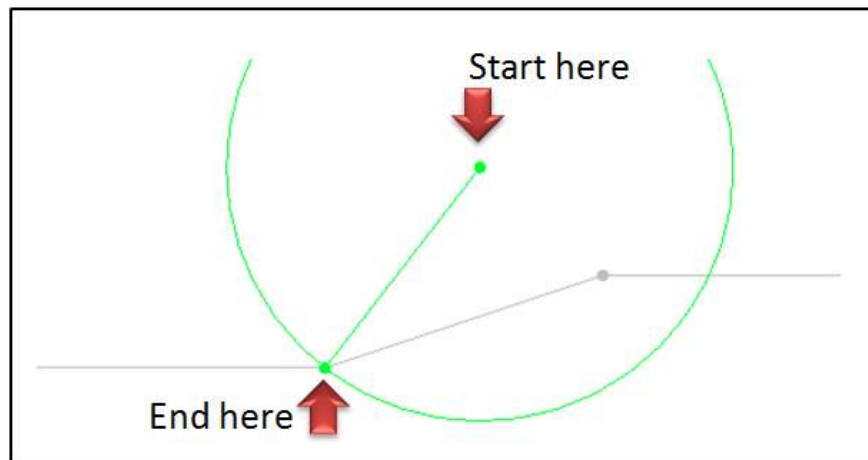

Figure 12 Creating the starting circle
3. Create the arc by clicking on a starting point somewhere above the slope and double-clicking on a point near the toe of the slope as shown in Figure 12.